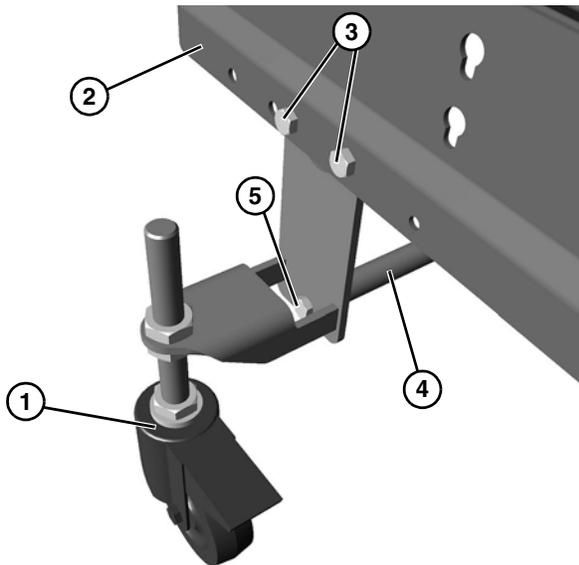

Figure 6
<p>Failure to secure screws (Figure 6, item 3) may cause conveyor sections to drop down causing severe injury.</p> <p>TIGHTEN SCREWS (Figure 6, item 3) AFTER ADJUSTMENT.</p>
2. Attach the caster wheel stand (Figure 6, item 1) to the conveyor (Figure 6, item 2) and tighten the two bolts (Figure 6, item 3).
4. Install brace (Figure 6, item 4) and secure with bolt (Figure 6, item 5) on each side.